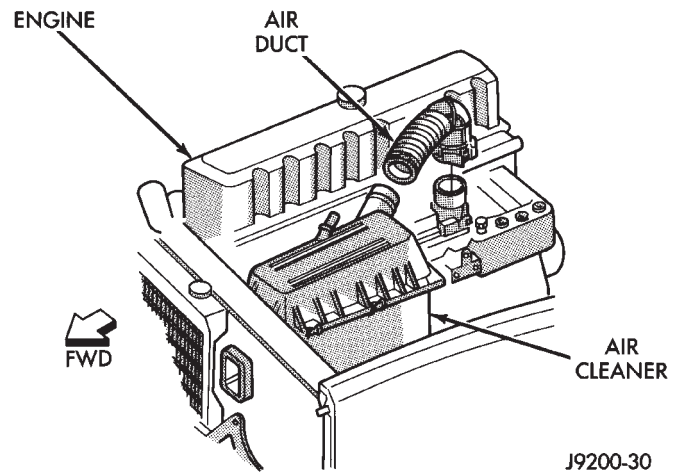

Fig. 12 Intake Air Duct (XJ)—Typical
(1) Inspect all hose fittings for looseness and corrosion. Inspect rubber ducts (Fig. 12) and hoses for brittleness and cracks. Examine the hose ends (those that are slipped over nipple connectors) for splits.